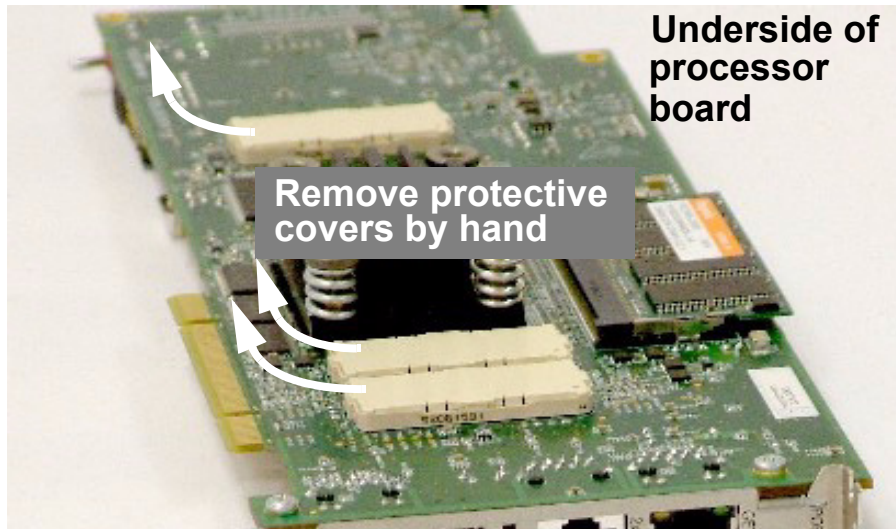

Figure 2-3. Remove Protective Covers from 300-pin connectors (underside of MPC8360 MDS Processor Board shown)
1. Remove protective covers from the 300-pin connectors on the bottom side of the processor board (See Figure 2-3.).